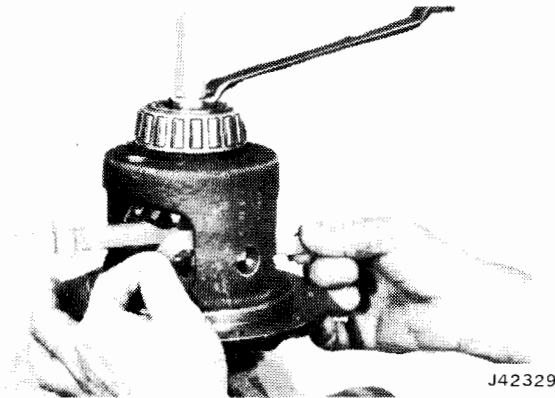

Fig. 10-69 Removing Pinion Thrust Washer
(14) Center forcing screw in step plate and tighten screw to move differential side gears away from differential pinion gears.
(15) Remove differential pinion gear thrust washers using feeler gauge or shim stock of 0.030-inch thickness. Insert shim stock or gauge between washer and case and withdraw shim stock and thrust washer (fig. 10-69).